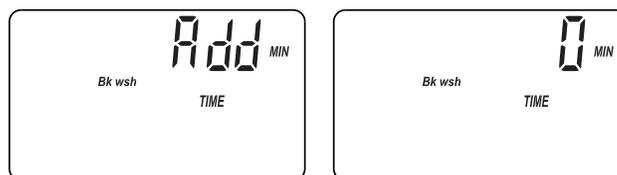

FIG. 33
7. Press SELECT again to display the alternating screens shown in Figure 33.